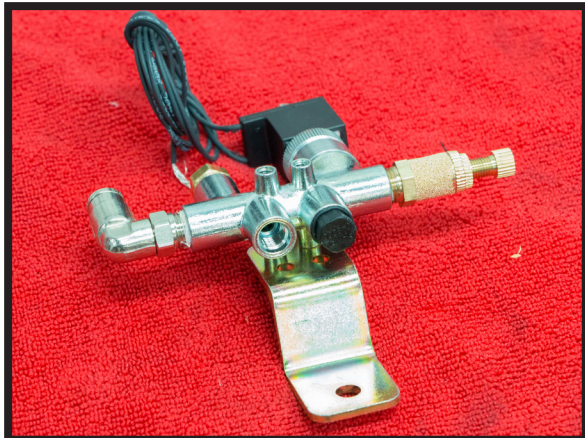

FIGURE 36
15. ATTACH THE AIR MANIFOLD TO THE MOUNTING BRACKET AS SHOWN BELOW. ALSO, INSERT THE ALUMINUM AIR PLUG AND SNUG TIGHT. USING THE INCLUDED M6 NUT, ATTACH THE MANIFOLD TO THE BOTTOM OF THE BATTERY BOX. (FIGURES 36, 37)